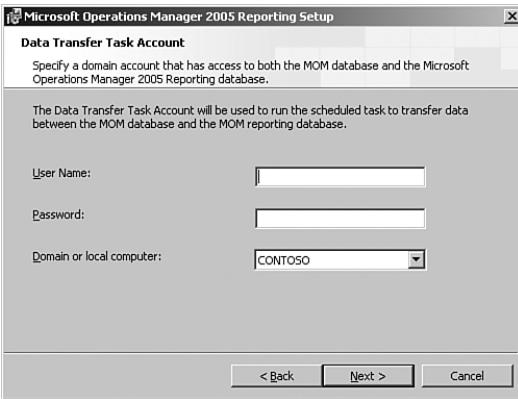

FIGURE 6.21 Enter the Data Transfer Task account.
6. The data transfer task account runs the scheduled task, transferring data between the MOM database and the MOM reporting database. This should be a domain account if the two databases are on separate computers. In Figure 6.21, you are asked to specify this account and its credentials.